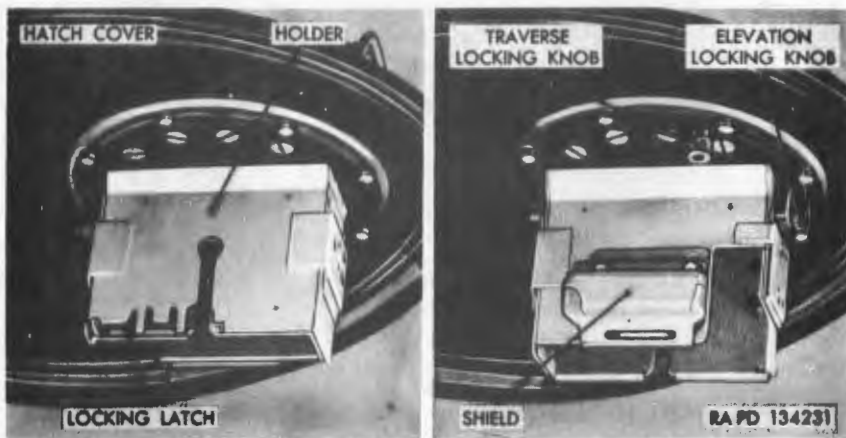
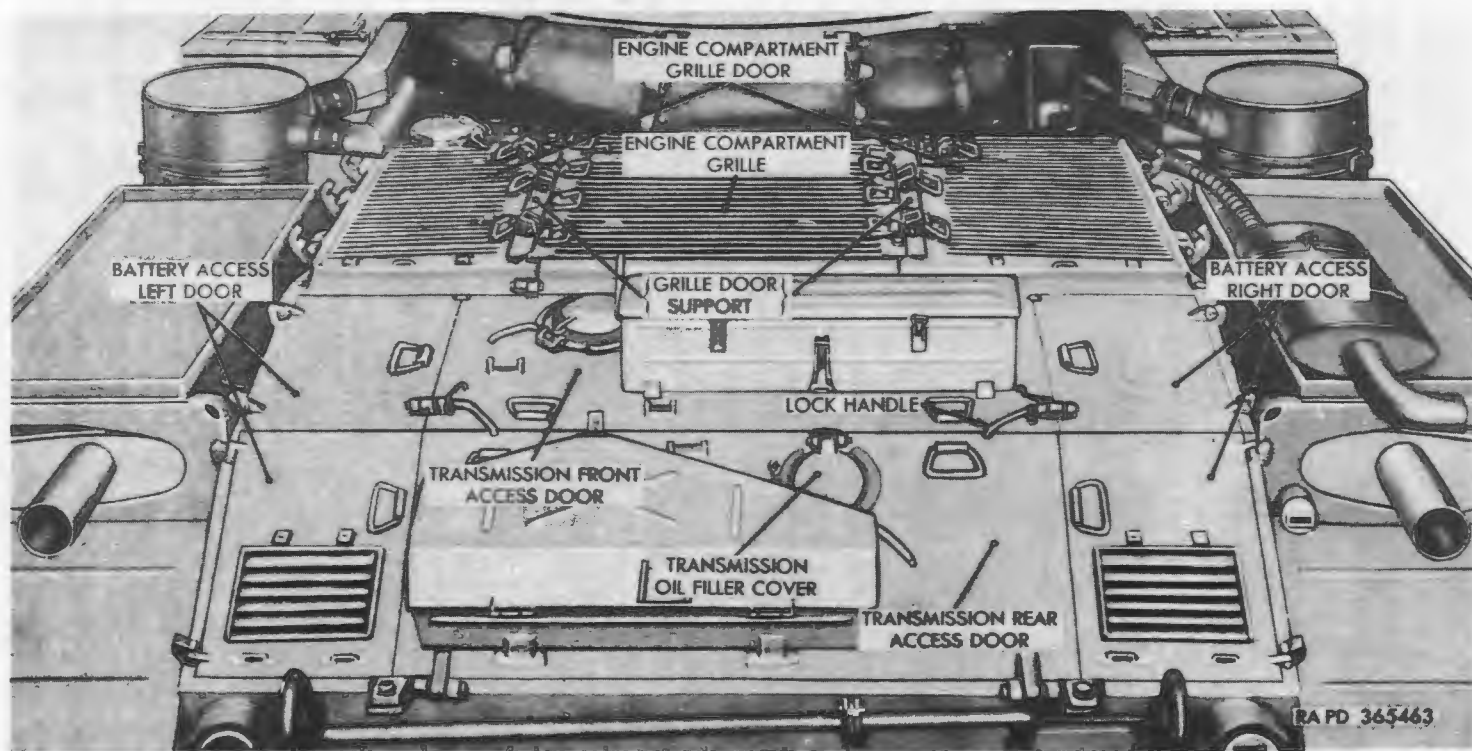
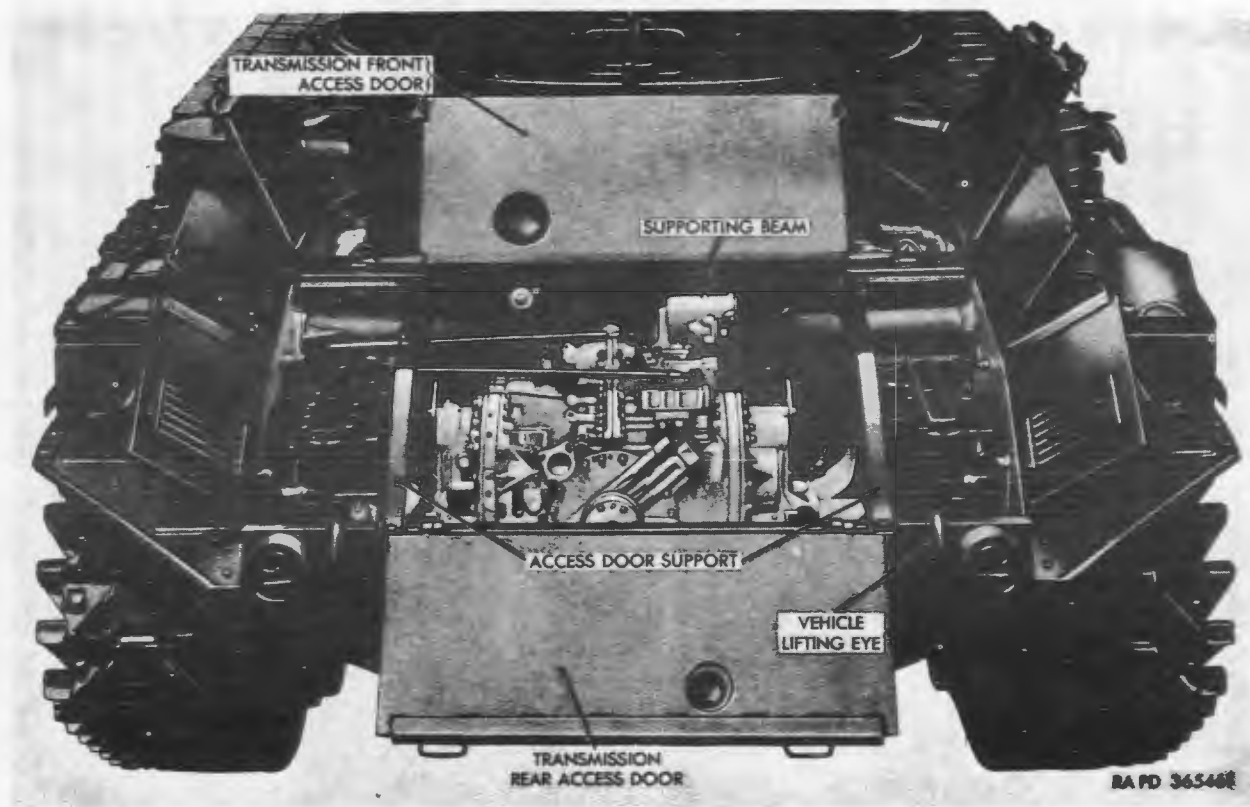
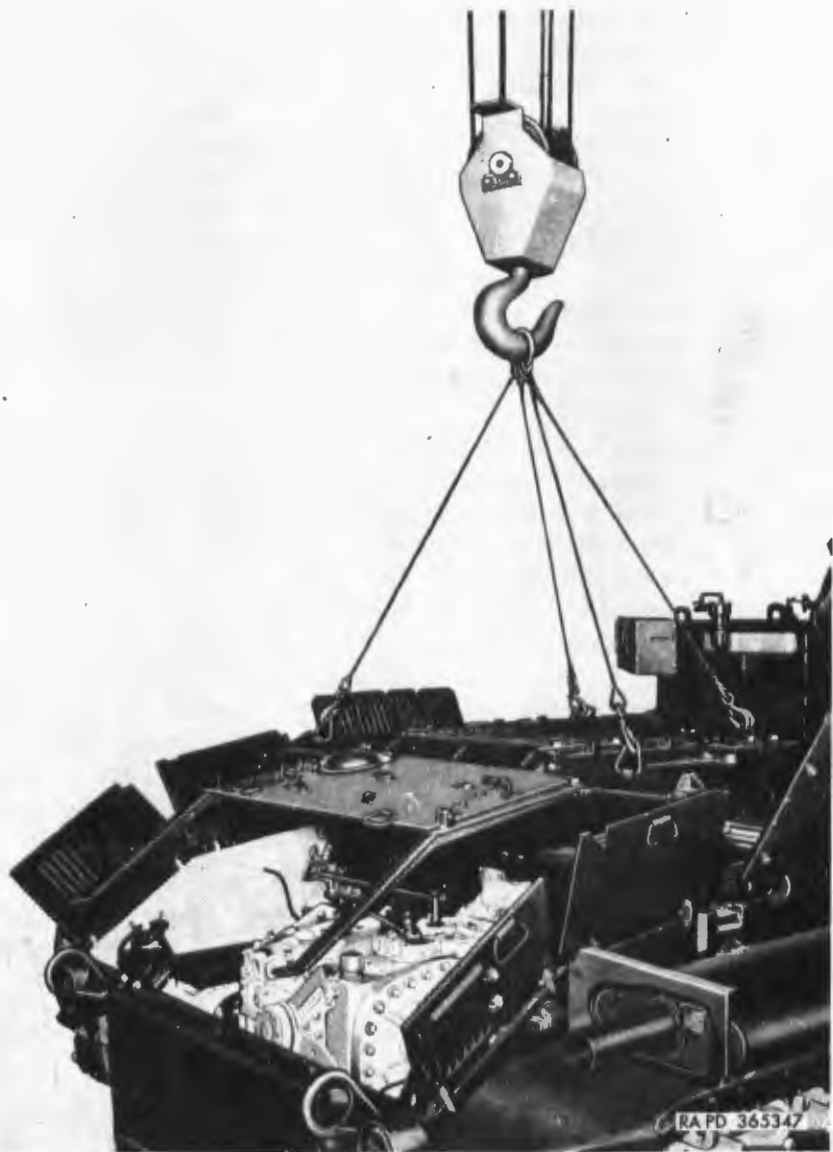

Figure 234. Periscope holder, front and rear view.
Figure 236. Engine compartment grilles and access doors.
Figure 237. Engine compartment—grille and access doors open.
Figure 238. Removal or installation of supporting beam, supports, grilles, and transmission front access door as an assembled unit.
the hull. On late vehicles, the roof plate is welded to the hull. A periscope holder (fig. 234) is provided in both the commander's and driver's hatch covers. Each periscope holder can be traversed 360° and elevated or depressed 25°. Traverse and elevation locking knobs (fig. 234) are provided to secure the periscope holder in the desired position. The rear of the hull is a welded unit up to the engine compartment access doors and grilles. The top of the engine compartment is constructed of removable grilles, hinged grille doors, battery access doors, transmission access doors, and supports (fig. 236).
a. Grilles and Grille Doors (fig. 236).
b. Access Doors (fig. 236).
- (1) *General.* The engine compartment grille doors, grilles, and transmission and battery access doors are supported over the engine compartment by the supporting beam, grille door supports, and access door supports. The supporting beam (fig. 237) crosses laterally over the engine compartment and is mounted on the hull side plates above the exhaust stack supports. The grille door supports (fig. 236) are secured to the supporting beam assembly and to the top of the engine compartment bulkhead. The access door supports (fig. 237) are secured to the supporting beam and to the hull rear plate. The supporting beam may be removed with the grille door and access door supports attached or each part may be removed separately. Remove supporting beam, supports, grilles, and transmission front access door as an assembled unit whenever power plant is to be removed and if adequate lifting equipment is available.
- (2) *Removal and installation of supporting beam with grille door supports, access door supports, grilles, and transmission front access door.*
- (a) *Removal.* Open six engine compartment grille doors, four battery access doors, and transmission rear access door. Remove six hex-head bolts and lockwashers, two located on the front end of engine compartment grille door supports (fig. 236), two on the supporting beam (fig. 237), and two securing the access door supports (fig. 237) to the rear hull plate. Attach hoist and lift from vehicle as an assembled unit (fig. 238).
sion front access door (fig. 238) over the engine compartment and secure with six $\frac{5}{8}$ x $1\frac{1}{2}$ hex-head bolts and six $\frac{5}{8}$ -inch lockwashers. Close six engine compartment grille doors, four battery access doors, and the transmission rear access door.
- (3) *Removal and installation of supporting beam, engine grille door supports, and access door supports.*
- (a) *Removal.* Open six engine compartment grille doors, four battery access doors and the transmission rear access door (fig. 237). Remove the transmission front access door (b(1)(a) above). Remove five engine compartment grilles (a(1)(a) above). Remove four hex-head bolts and lockwashers, one at each end of the two access door supports and lift off access door supports (fig. 237). Remove four hex-head bolts and lockwashers, one at each end of two grille door supports and lift off engine grille door supports (fig. 236). Remove the hex-head bolt and lockwasher at each end of the supporting beam and lift off the supporting beam (fig. 237).
- (b) *Installation.* Position the supporting beam (fig. 237) across the engine compartment and secure with two $\frac{5}{8}$ x $1\frac{1}{2}$ hex-head bolts and $\frac{5}{8}$ -inch lockwashers. Position the two grille door supports (fig. 236) and secure each with two $\frac{5}{8}$ x $1\frac{1}{2}$ hex-head bolts and $\frac{5}{8}$ -inch lockwashers. Position the two access door supports (fig. 237) and secure each with two $\frac{5}{8}$ x $1\frac{1}{2}$ hex-head bolts and $\frac{5}{8}$ -inch lockwashers. Install five engine compartment grilles (a(2)(a) above). Install the transmission front access door (b(2)(b) above). Close six engine compartment grille doors, four battery access doors, and the transmission rear access door (fig. 236).